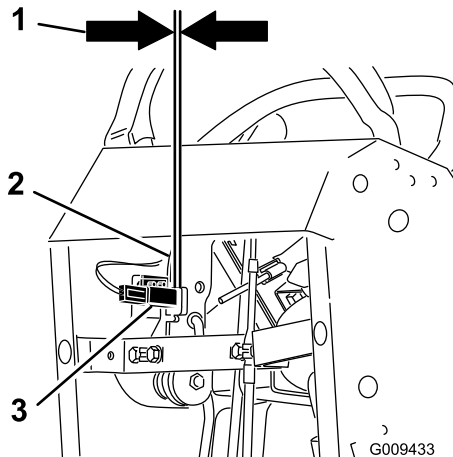

Figure 60
12. Check the gap between the brake lever and the switch as shown in Figure 60. The gap needs to be an 1/8 inch (3mm) with the brake engaged.